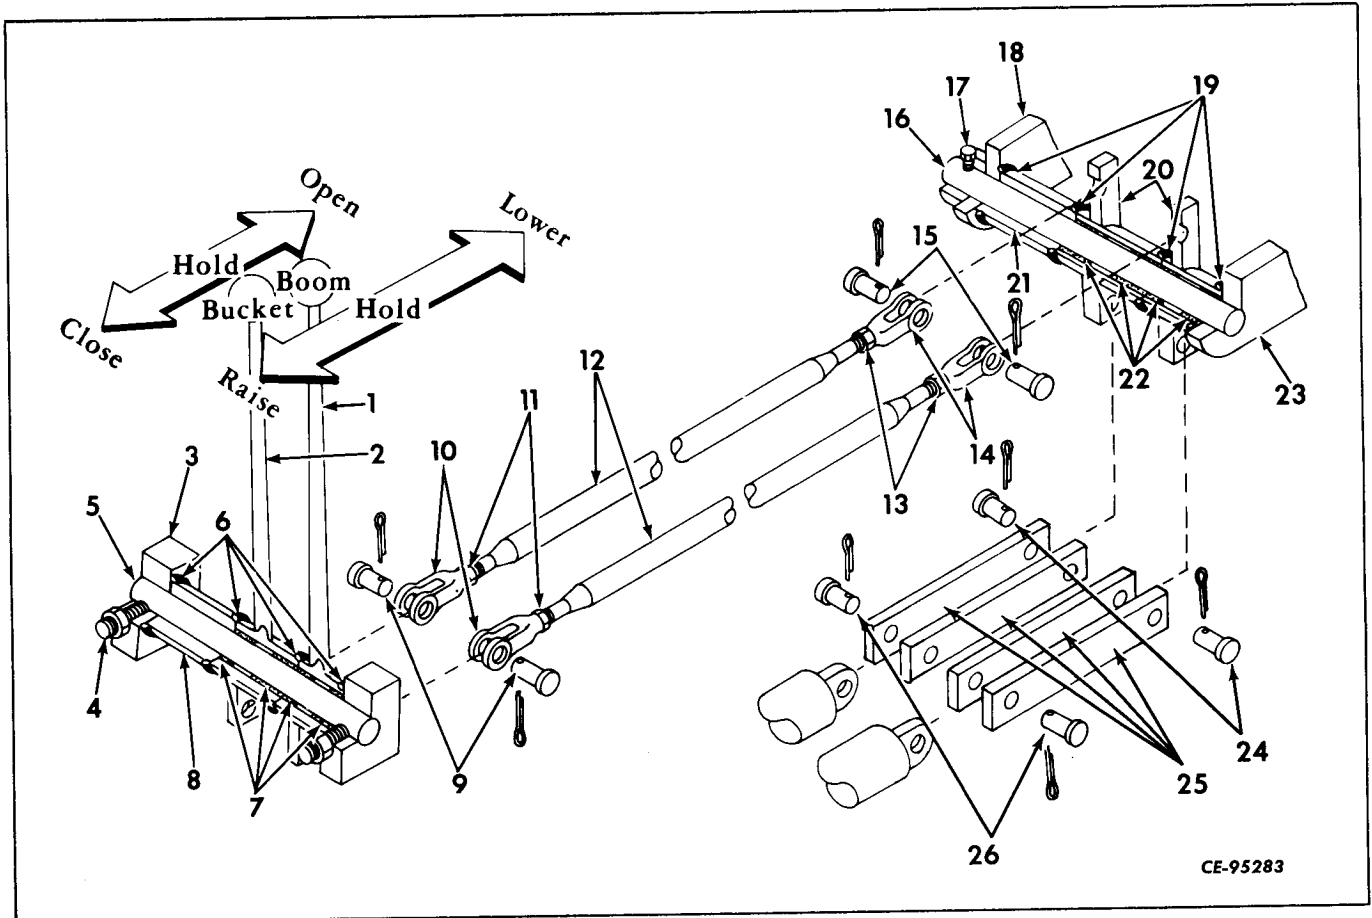

Figure 9-18
Remove control rods (12, Fig. 9-18) from control levers (1, 2) from mounting brackets (3) by removing cap screws (4) and drive hinge pin (5) out through brackets. There are teflon bushings (7, 22) located inside the hub of the control levers and bellcranks. Inspect these bushings for wear and/or damage. If replacement is required, remove cap screw plugs from the bellcranks and press the bushings out.
If bellcrank bushings (7, 22, Fig. 9-18) have been removed, press in new bushings. Press bushings flush with open ends of bellcrank hubs. Hand pack bellcrank hubs with chassis grease (NLG1-Grade 2). Install and tighten cap screw plugs in each bellcrank.
The only adjustable components in the control linkage are the threaded clevises (10, 14, Fig. 9-18) on the ends of control lever-to-bellcrank rods (12).